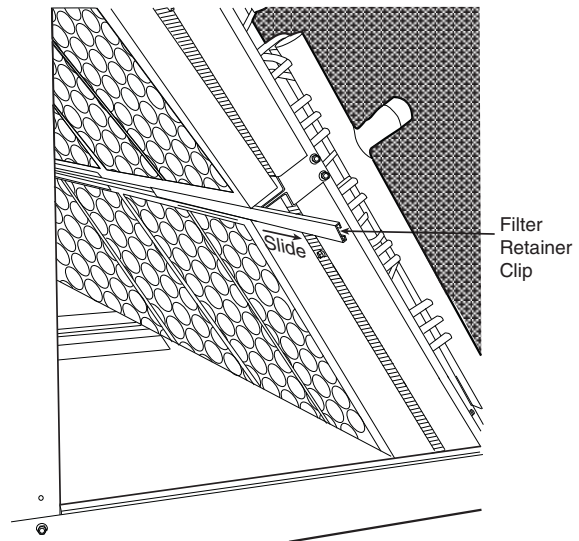

Fig. 28 — Remove Filter Retainer Clip
2. Remove the filter retainer clip (see Fig. 28).